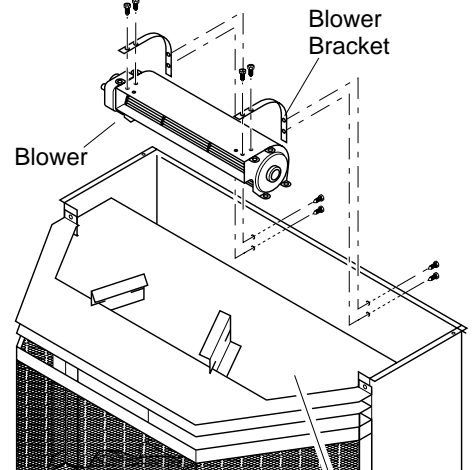

Figure 14 - Removing Blower Brackets from Stove and Attaching to Blower
6. Remove the two blower mounting brackets from the rear panel by removing two screws each (see Figure 14).
7. Attach the two mounting brackets to blower housing using four screws provided in blower kit (2 for each bracket) (see Figure 14). Tighten screws securely. Place blower assembly temporarily on top of firebox.
10. Attach the terminal ends of the white and black power cord wires to the terminals on the blower motor (see Figure 14). Push firmly.
12. Using the four screws previously removed, mount blower assembly to stove by reattaching blower brackets to rear panel (see Figure 14). Tighten screws securely.